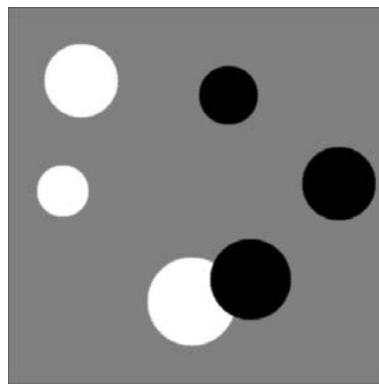

Figure 2(a)
- (b) Given the image (two objects with different orientation in Figure 2(b), suggest one suitable feature and show the proposed feature can be used to differentiate the two objects of different orientation.